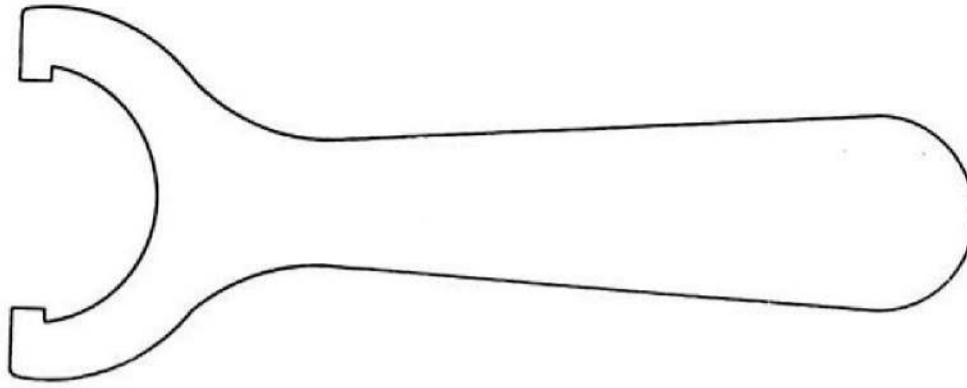

Fig. 2. Spanner for canopy jettison gun (Vulcan aircraft)
6. This component, the servicing of which is described in Sect. 7, Chap. 4, incorporates slotted locking caps which necessitate the use of the special C-spanner (Part No. A/X/5405) shown in fig. 2.